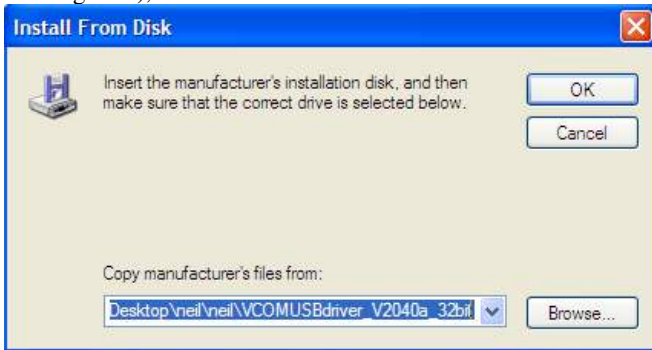

Figure 8. Confirm Hardware Driver
9. Then, it will go back to Install From Disk interface (See Figure 8), click **OK**.